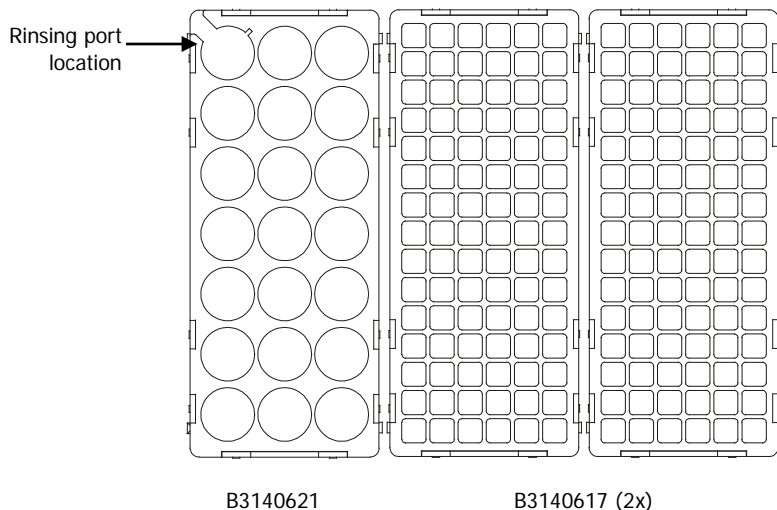

Figure 6 Sample racks with rinse port in correct location
1. Select a set of three sample racks and place in the correct sequence on the sample table, as shown in Figure 6.